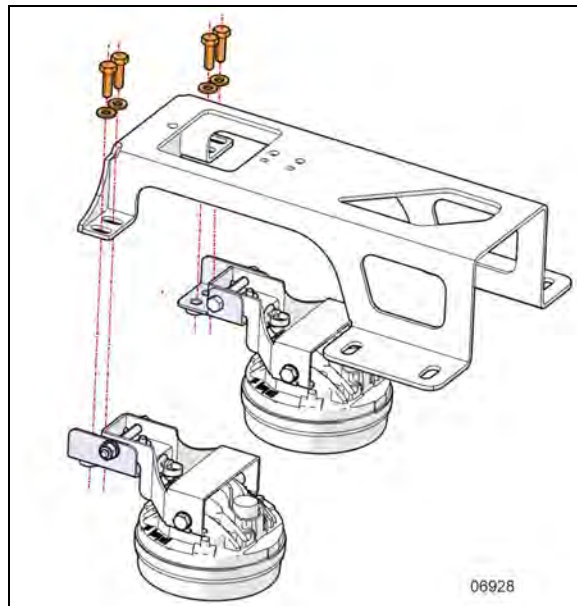

FIGURE 97: FOG LIGHT SUBASSEMBLY DISMOUNT
3. Remove the screws that supports the fog light subassembly on the bumper support (Figure 97).